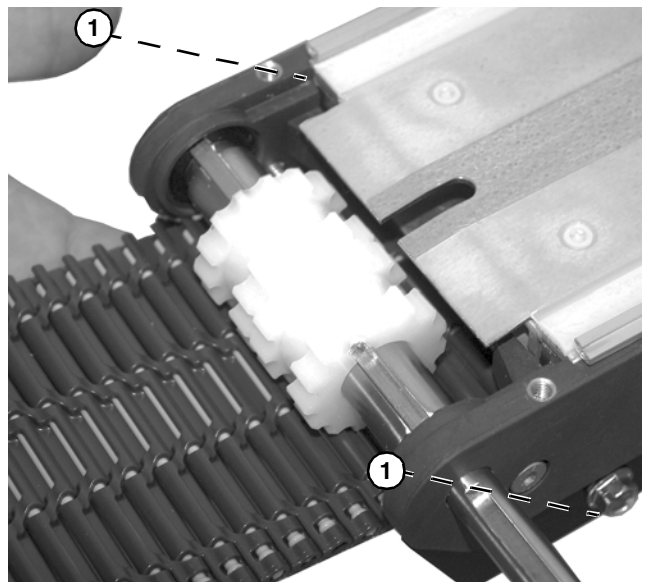

Figure 35
5. Remove belt by pulling belt out of bottom wear strips (**Figure 35, item 1**).